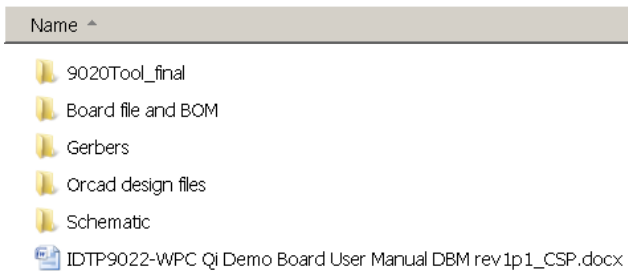

Figure 7. File folder structure on the CDROM.
3. Install the Wireless Power Demo Windows GUI software by executing the Setup.exe file from the CDROM in the folder “9020Tool_final” (Figure 7).